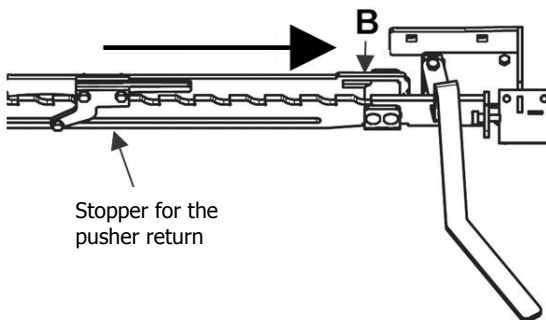

Figure 20 – Adjusting the stopper for the pusher
1. Before you put the last bale on the wrapper, adjust the stopper of the pusher to the closest position to the hoop as possible (Figure 20). So, the last bale of the tube will be pushed farther than the cylinder of the X-tractor.